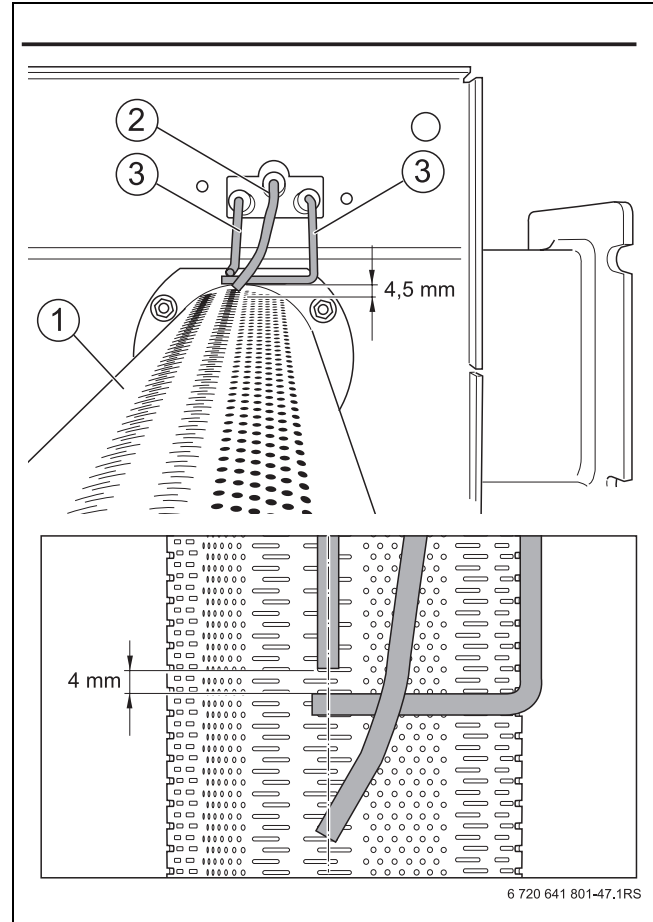

Fig. 62 Check the electrode position (dimension in mm)
- ▶ Check the electrode gaps in accordance with Fig. 62 and correct if required.
- ▶ Adjust the burner rod so that the electrode position corresponds to Fig. 62. The electrode is positioned above the row of slots.